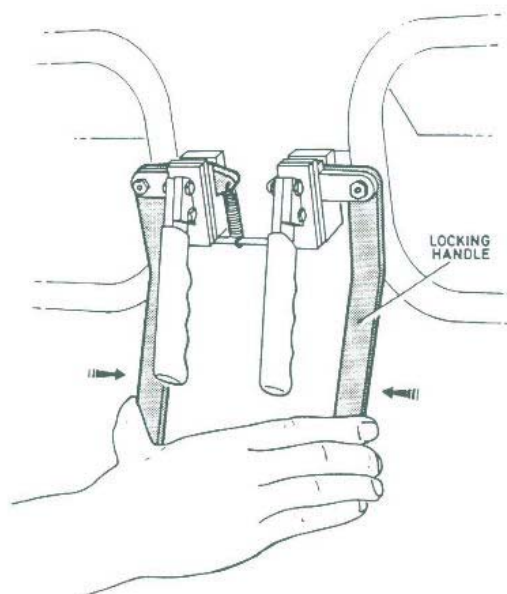

Fig.1-6 Windscreen visors — emergency closing
6. Windscreen visors (Figs. 1-6 and 1-7)